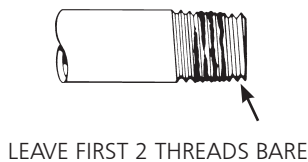

Figure 1. Pipe Compound Application
- Prior to installation, apply pipe compound to all male threads as shown in Figure 1.